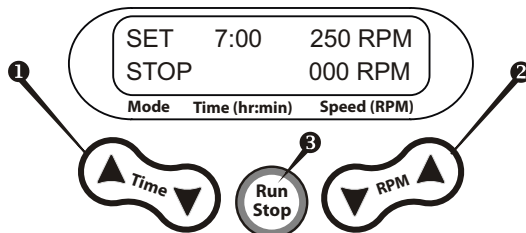

Fig.1 Control panel
- 4.3. With the help of “▲” and “▼” **Time** keys (Fig. 1/1) set the required working time interval in hours and minutes (increment - 1 min). If the key is pressed more than 2 sec the increment becomes bigger. The set time is displayed in the upper line of the display.
- 4.4. With the help of “▲” and “▼” **PRM** keys (Fig. 1/2) set the required shaking speed (increment 10 RPM). If the key is pressed more than 2 sec the increment becomes bigger. The set speed is displayed in the upper line of the display.
- 4.5. Press the **Run Stop** key (Fig. 1/3). The platform will start rotation (indication “RUN”) and the timer indicator will start counting up the time interval in the lower line of the display.